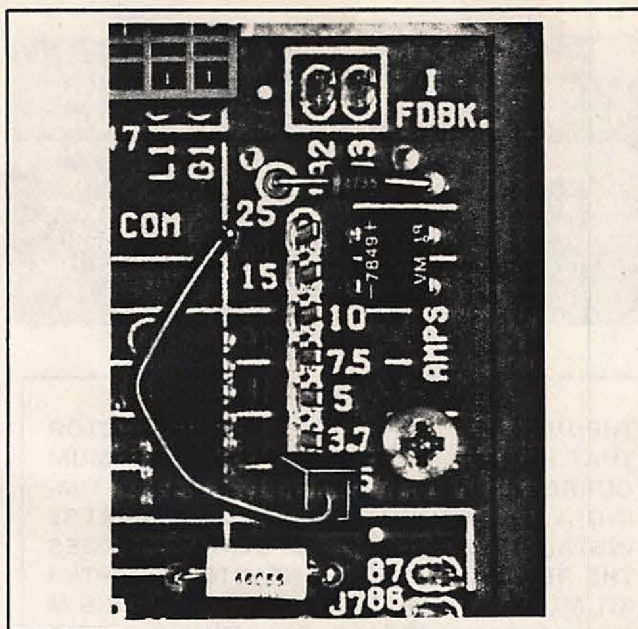

Figure 3.6 — HP/Current Scaling Pins
**Step 3** — On the Regulator Module, locate the scaling pins. (Refer to Figure 3.6.) Near them, locate the black pig-tail type jumper. Do not move it if it is connected to the proper pin. If it must be reconnected, carefully lift it straight up and off the pin. Slide the connector straight down over the proper pin.
**3.7 Regulation Mode Jumper** — The FlexPak Plus controller offers three types of drive regulation. The first, which is factory shipped, is an armature voltage feedback (A).